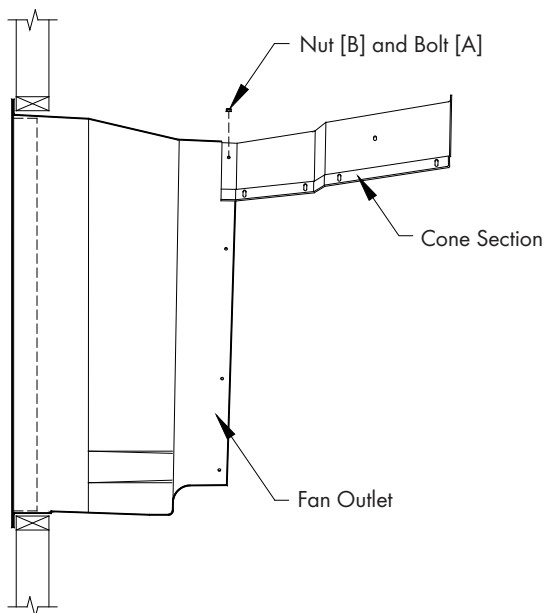
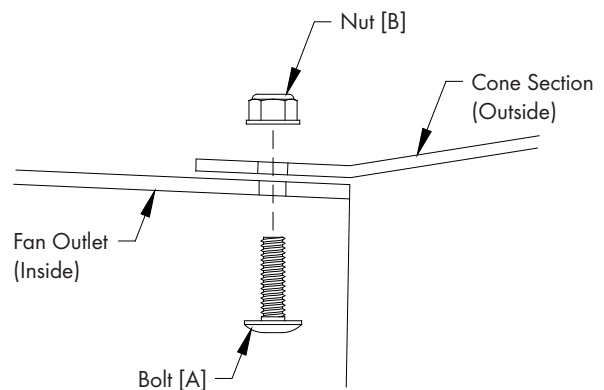

Figure 1
Figure 2
Place (1) cone section on top of the fan outlet as shown in Figure 1. Install (3) Bolt [A] through holes in fan outlet and slots in cone section and secure with Nut [B]. Truss Head of each bolt must be on inside of fan outlet, flange nuts must be on outside of cone. See Figure 2. Tighten bolts and nuts until cone section fits firmly around fan outlet.